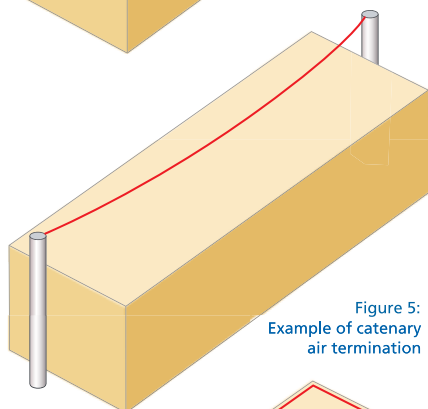

Figure 5:
- Catenary (or suspended) conductors, whether they are supported by free standing masts or linked with conductors to form a mesh on the roof (See Figure 5)